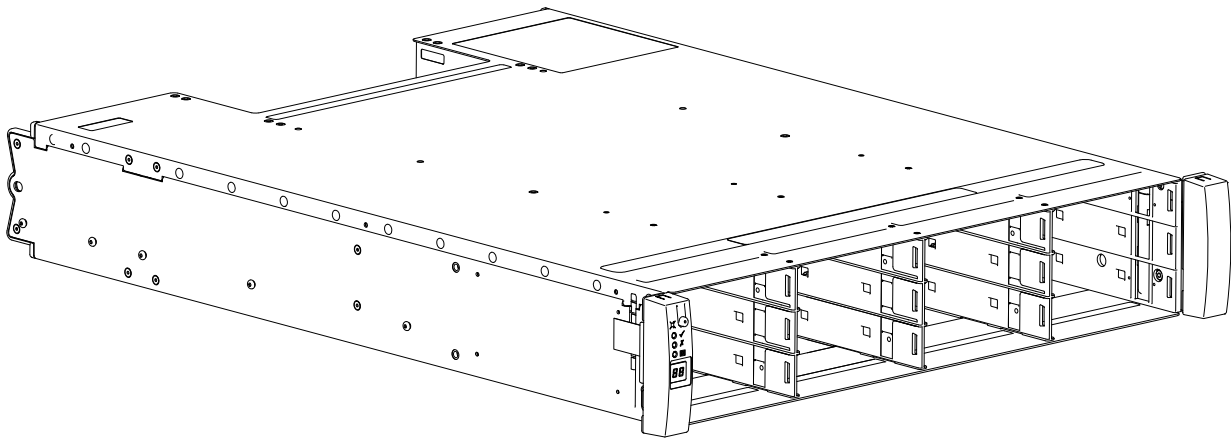

Figure 18 2U12 enclosure chassis – dimetric front orientation
- 2U12 empty chassis with midplane and module runner system: see Figure 18 \(page 28\).